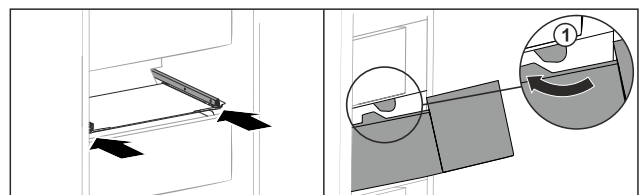

Fig. 135
- ▶ Guide drawer around the stoppers Fig. 135 (1).